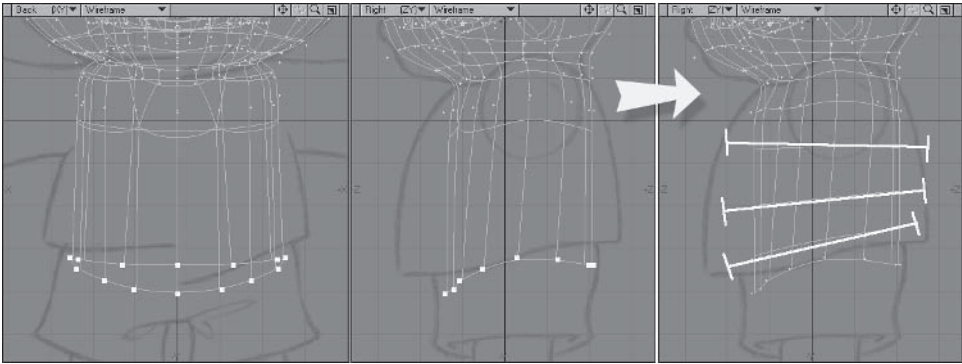

Figure 5.4-4. Creating the geometry for the torso.
- 4. Select all the points of the bottom edge and **Extend**. **Move** the points down to just under the shirt and adjust to match Figure 5.4-4.